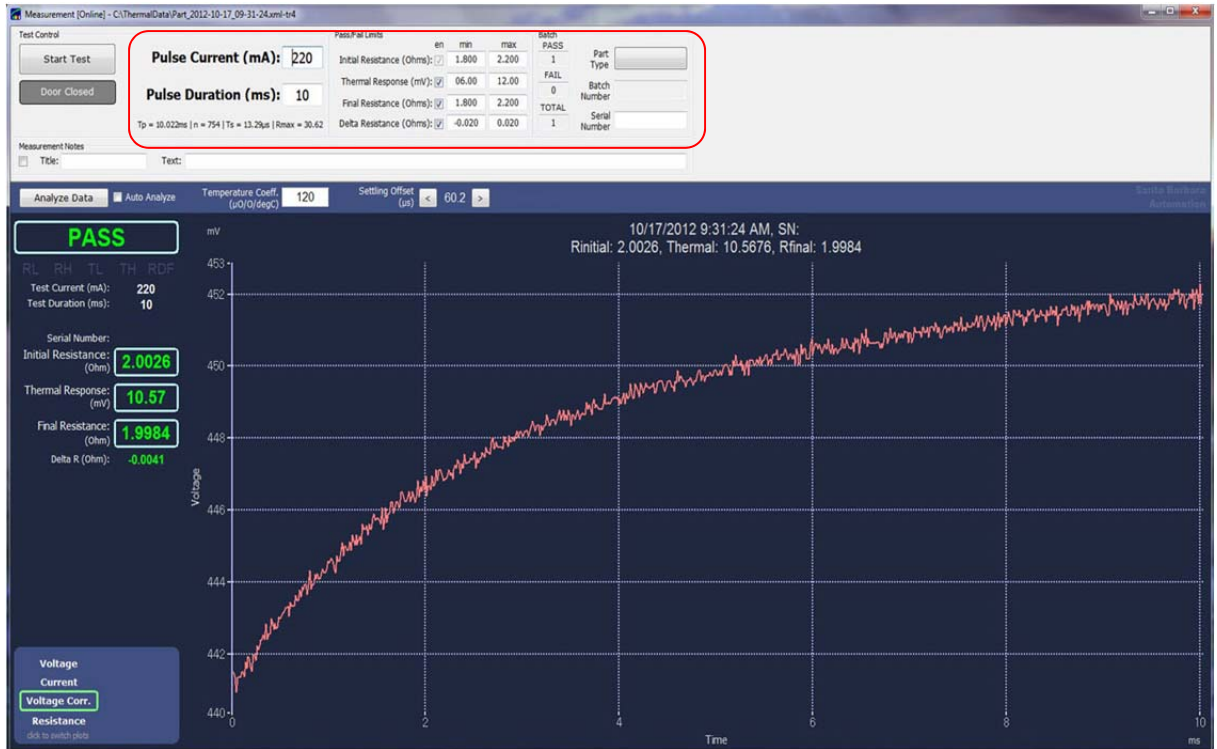

Figure 18A: Test Configuration Area
3. Verify testing parameters such test current and pulse duration in the measurement window (Fig. 18A).
Each test result may be subjected to up to four separate evaluations: initial resistance, thermal response, final resistance, delta resistance; the limits are entered in the measurement windows (Fig. 18A). The initial resistance evaluation is mandatory and may not be disabled; other evaluations may be disabled by unchecking the appropriate checkbox. Note that initial resistance failure will cause all subsequent tests to be aborted. Thermal response failure will not abort final resistance. The software has the following part counters: